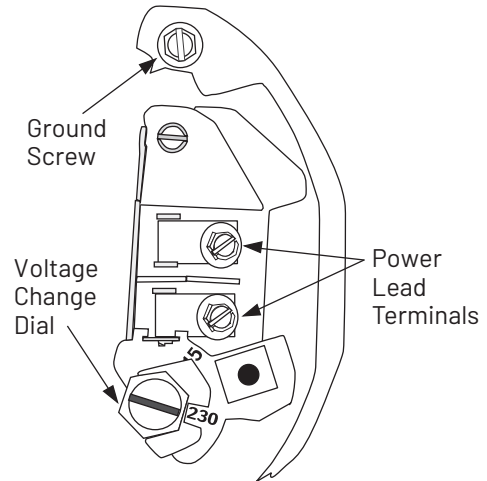

FIGURE 6 – VOLTAGE SET TO 230 VOLTS, PLUG TYPE
To change to 115 volts (see Figure 6):
1. Connect ground wire first. Connect the ground first, then to green grounding terminal provided under motor canopy (see Figures 6 and 7) identified as GRD. Make ground connection to this terminal. Do not connect motor to electrical power supply until unit is permanently grounded; otherwise serious or fatal electrical shock hazard may be caused.